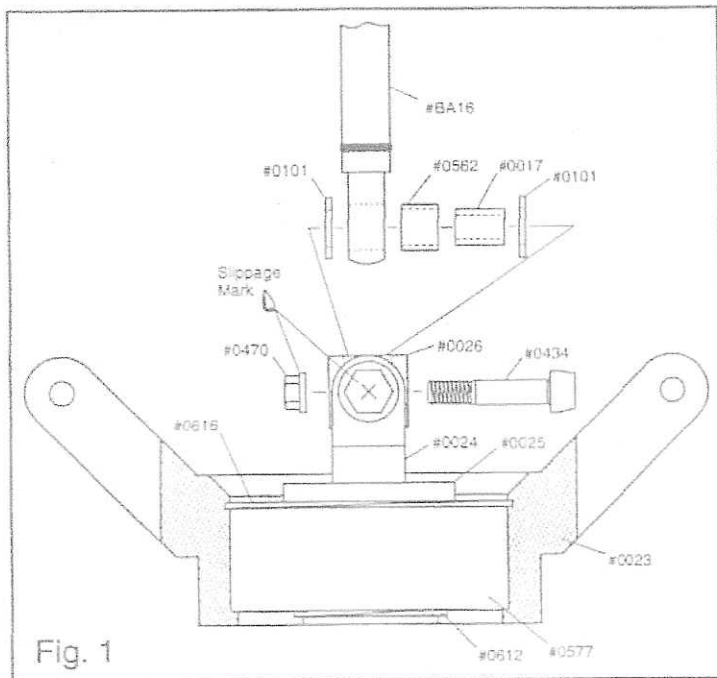

Fig. 1
Please follow the supplied instructions for installing the new hardware, and discard the old hardware. If you already have the new style bolts as pictured in fig. 1 & 2 of the instructions, disregard that portion.
1. Replace (4) bolts #0434 with the new bolts supplied as shown in fig. 1 & 2. If the heads of the bolts do not seat flat, use a 3/8 inch drill bit and carefully chamfer the bolt holes in part #0026 and #0016.